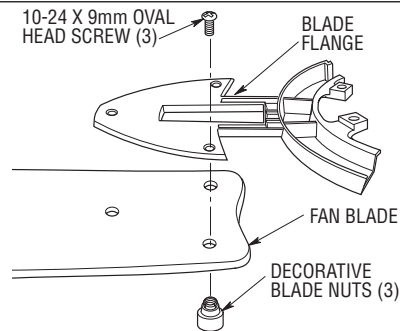

Figure 1
1. Mount the fan blades to the blade flanges using three 10-24 x 9mm oval head screws and three decorative blade nuts (supplied) (Figure 1).